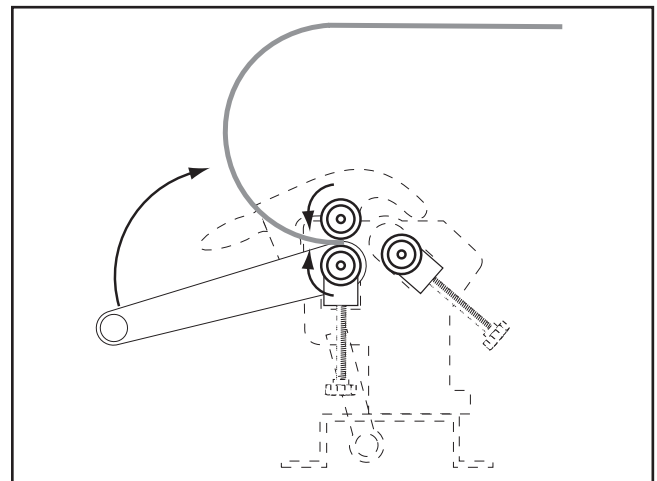

Figure 24. Re-inserting the workpiece.
- Rotate the workpiece 180°, insert the curved end into the slip roll, then process the workpiece through the machine, as shown in **Figures 24** and **25**.